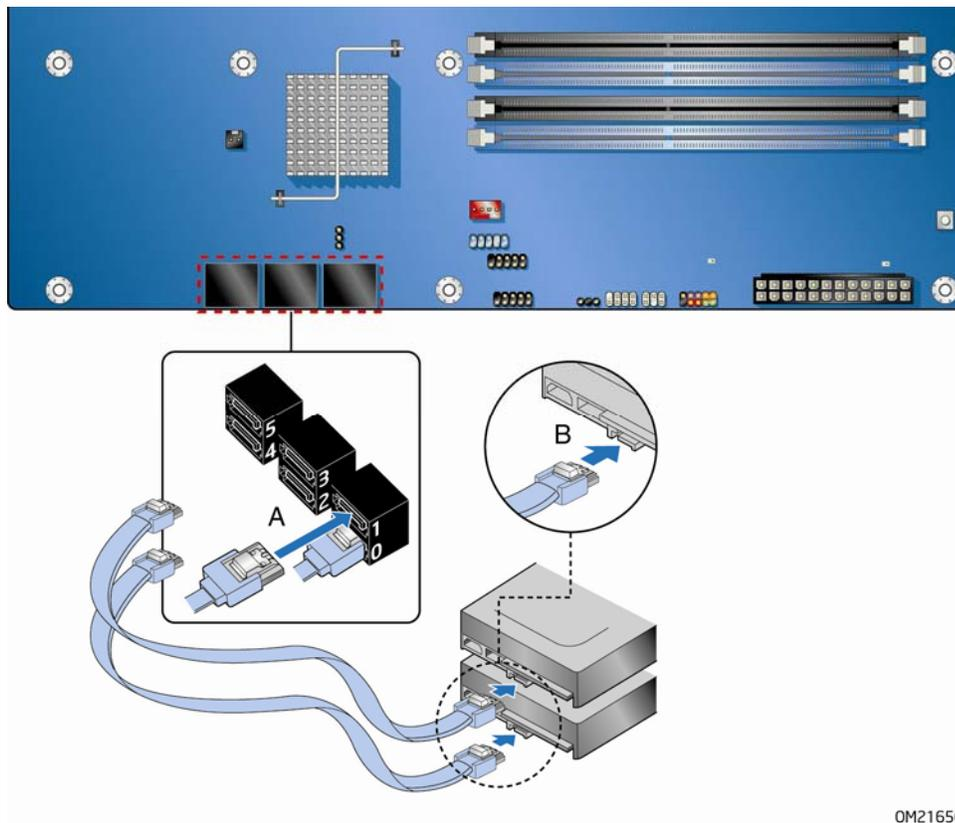

Figure 26. Connecting the Serial ATA Cables
2. Attach one end of the SATA cable to one of the SATA connectors on the board (Figure 26, A) and attach the other end of the cable to the SATA drive (Figure 26, B).